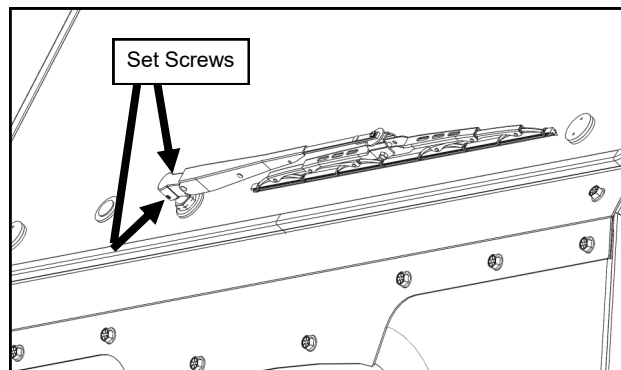

Fig. 15.3 (Wiper Arm and Blade)
- 15.3 Install the wiper arm onto the wiper motor so that the wiper is horizontal. See Figure 15.3. Tighten the Allen Screws.